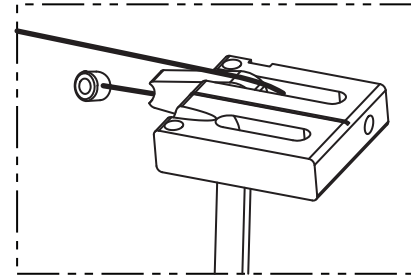

Fig. 1
1. **Stringing:** The Bender string gets installed from the front of the guitar, not through the ferrules on the back of the guitar like the other 5 strings. Instead, the Bender string enters through the small hole in the front of the Bender saddle, wraps over the top and then travels straight up toward the tuners **Fig 1**. To make threading the string through the saddle easier, put a little curve in the first inch of new string with your thumb and first finger.